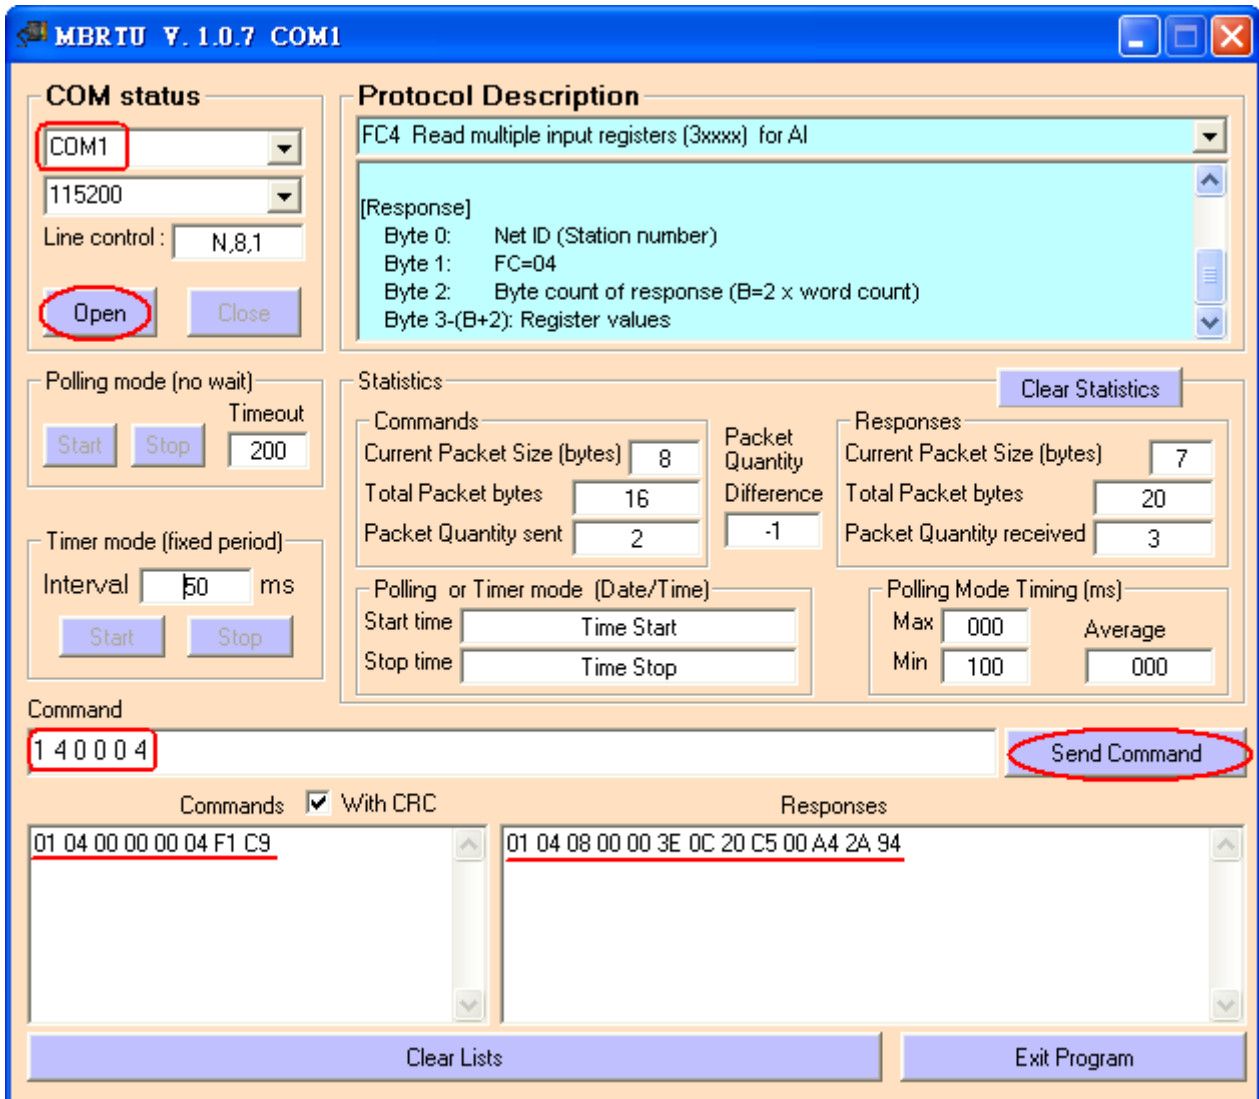

Figure 5-2 : Receive HART Command 1 data
- (2) The below demo will use the free MB/RTU tool provided by ICP DAS to show HART command 1 data. (Download from http://ftp.icpdas.com/pub/cd/8000cd/napdos/modbus/modbus_utility/)
- (3) Run “MB/RTU” tool. Set the com port settings the same with I-9720 (Baud Rate / Data Bits / Stop Bits / Parity) and then click “Open” button to connect to I-9720 (Figure 5-2).
- (4) Input “1 4 0 0 0 4” in “Command” field and click “Send Command” button to send the modbus command. The HART command 1 data will be received in “Responses” field => “01 04 08 00 00 3E 0C 20 C5 00 A4 2A 94” (Figure 5-2).